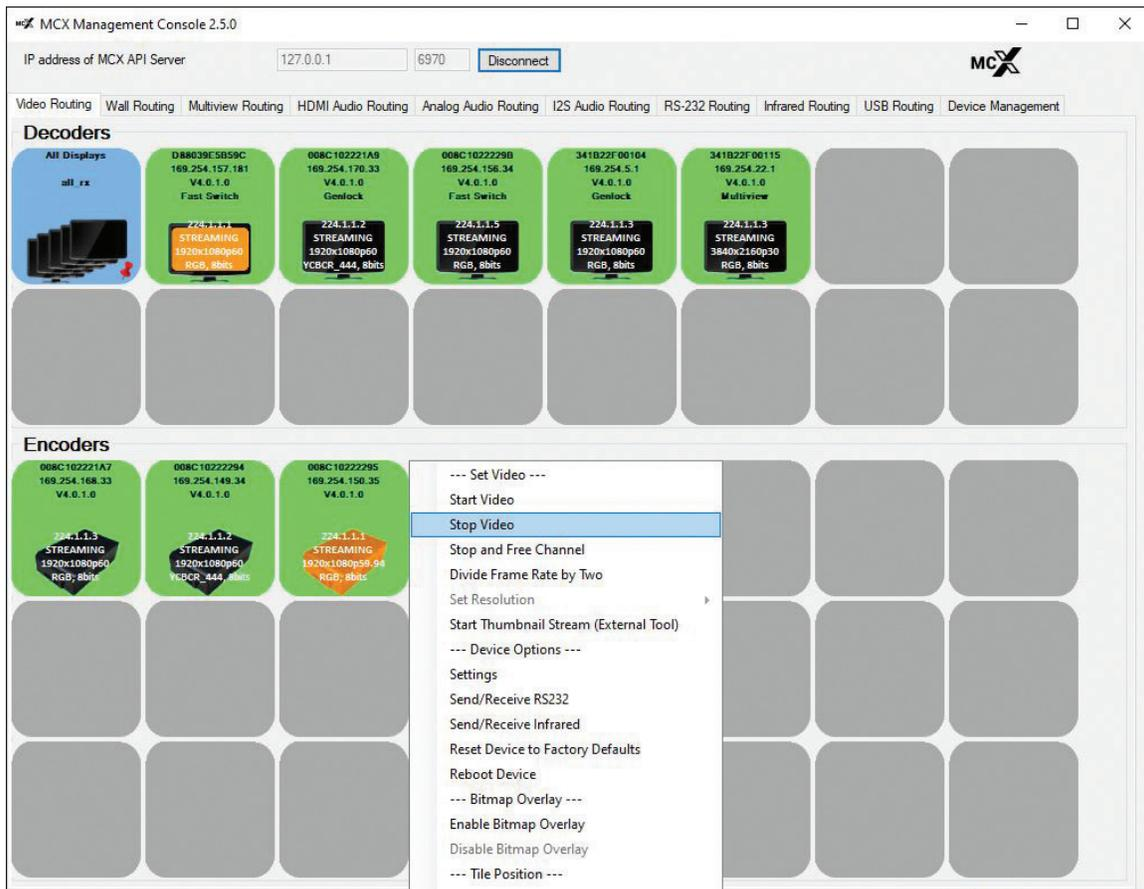

FIGURE 4-3. START/STOP OPTIONS OF ENCODER (TX) MENU
Refer to Figure 4-3, Start/Stop options of encoder (TX) menu.